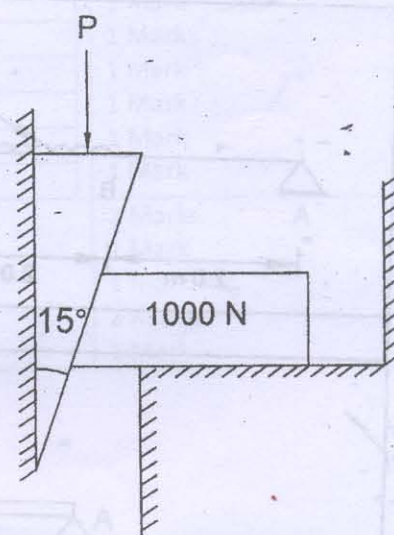

Fig. 6
- Que. 3.b A  $15^\circ$  wedge has to be driven for tightening a body of 1000 N weight as shown in Fig.6. If angle of friction of all surfaces in contact is  $18^\circ$ , find force P that start movement of block. 07